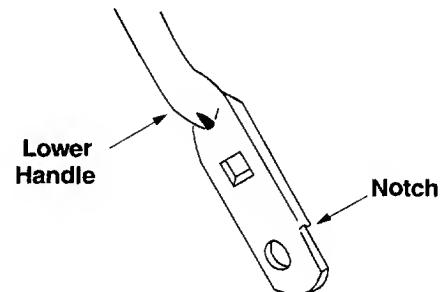

Figure 10
- Turn the lower handle around so the notches on the bottom of the lower handle are facing forward as shown in Figure 10. Reassemble, placing the bottom holes in the handle over the weld pins in the handle mounting bracket.